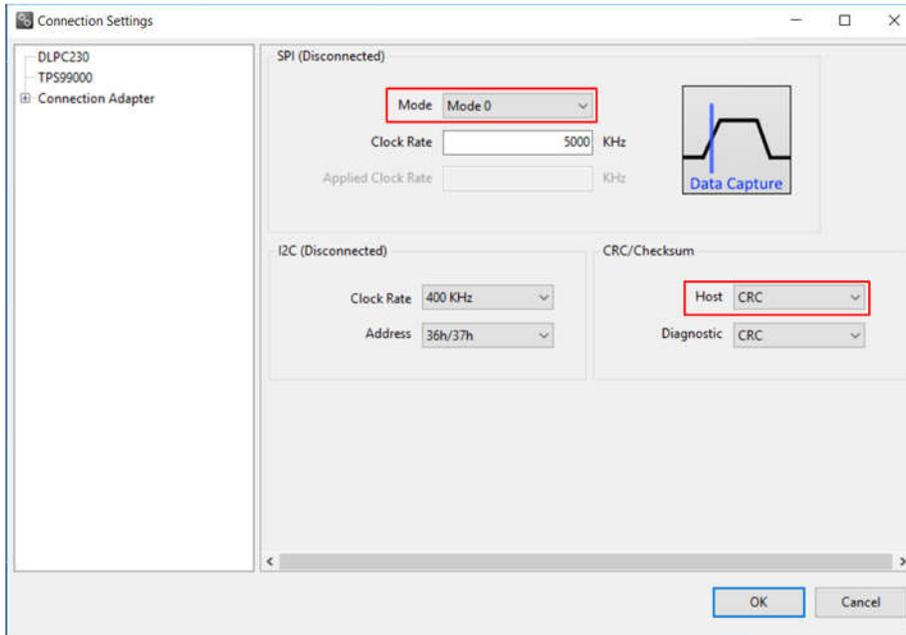

Figure 3-4. DLPC230-Q1 Automotive Control Program Communication Settings
- Select *Connection Settings* to confirm the SPI configuration shown in Figure 3-4 matches the controller PCB switch settings described in Table 2-3. Specifically, SPI mode and CRC/Checksum can vary based on switch settings. Press *OK* once configuration is complete.